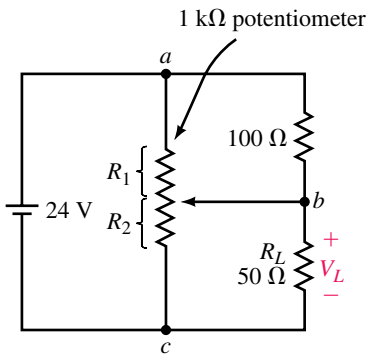

FIGURE 7-70
29. If the potentiometer of Figure 7-70 is adjusted so that $R_2 = 200\ \Omega$, determine the voltages V_{ab} and V_{bc} .
30. Calculate the values of R_1 and R_2 required in the potentiometer of Figure 7-70 if the voltage V_L across the $50\text{-}\Omega$ load resistor is to be $6.0\ \text{V}$.